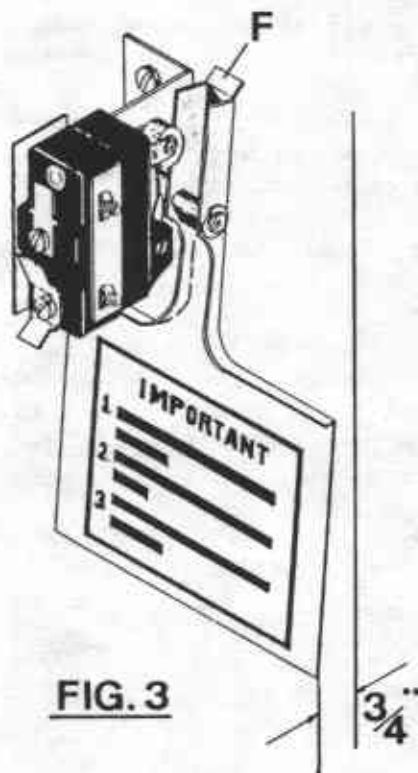

FIG. 1
2. Lay air switch assembly on flat surface. Adjust air blade at "A" (fig. 1) so that air blade lays flat and surface "B" is parallel to the flat surface.